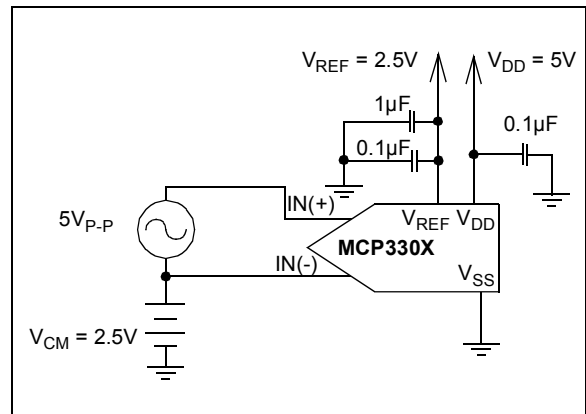

FIGURE 3-5: Pseudo Differential Test Configuration Example.
**Pseudo-Differential Operation** - Applying a single ended signal to only one of the input channels with a bipolar output is referred to as *pseudo differential operation*. To obtain a bipolar output from a single ended input signal the inverting input of the A/D converter must be biased above  $V_{SS}$ . This operation is described in Figure 3-5.